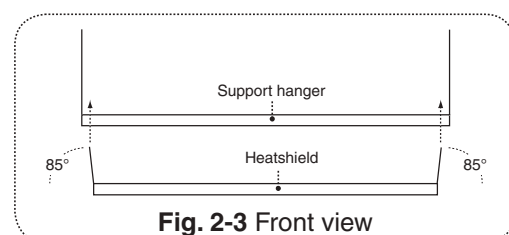

Fig. 2-3 Front view
3. Bend the 4 heatshield tabs upward, slightly less than a right angle, approximately 85°. Insert the tabs into the slots located at the bottom of the two support hangers. Once inserted they will slightly flex outward and lock in position. (See Fig. 2-3.)